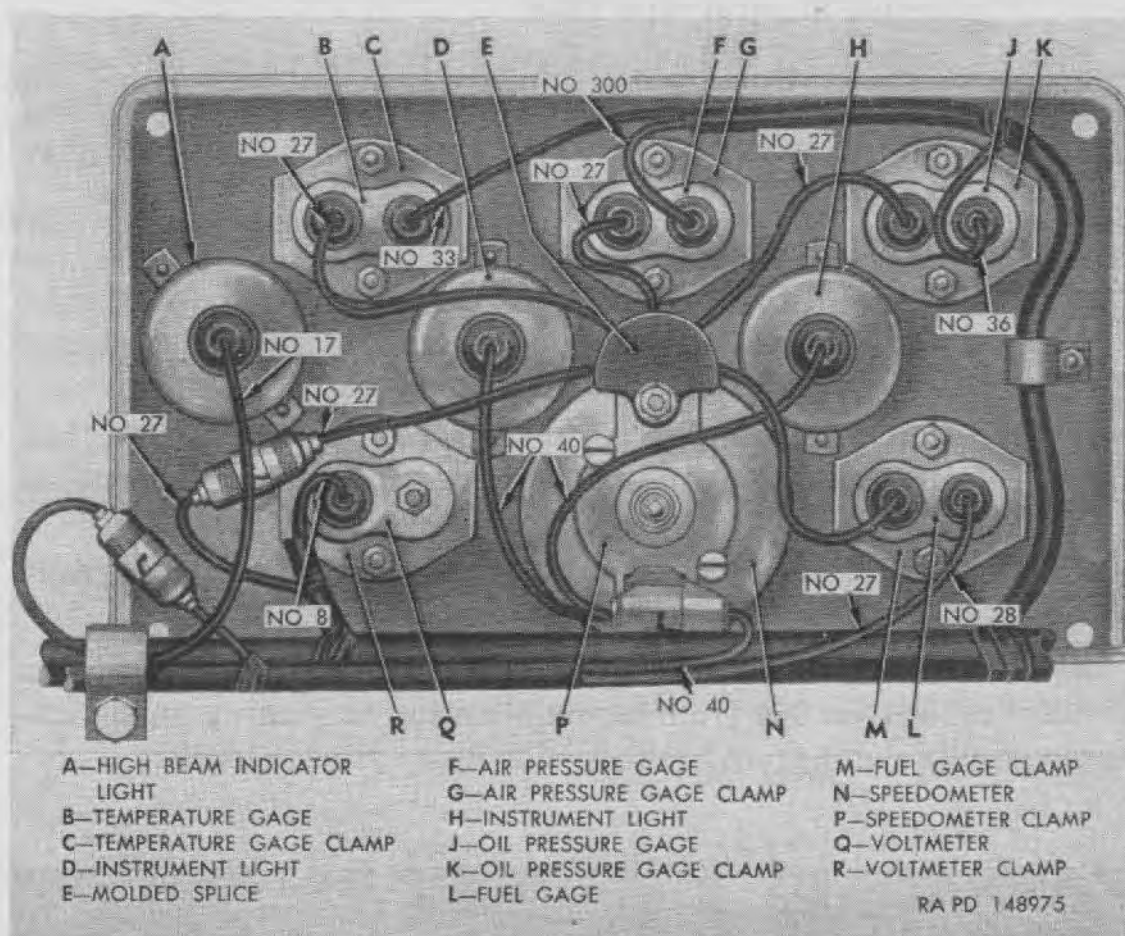
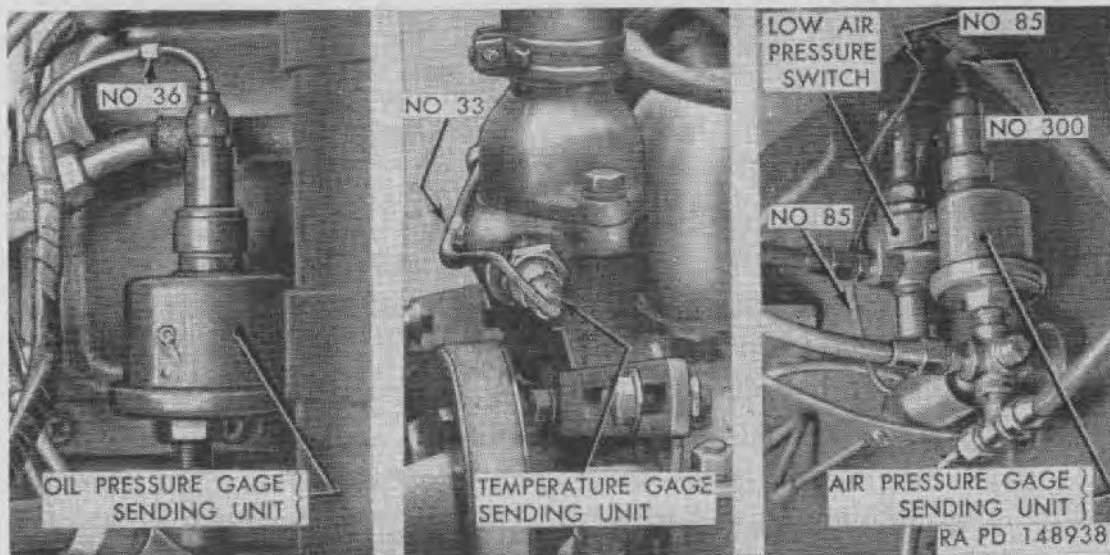

Figure 91. Instrument cluster—rear view.
Figure 92. Sending units and low air pressure switch installed.
a. INSTRUMENT CLUSTER. The instrument cluster, located in center of instrument panel, contains the voltmeter, engine temperature gage, oil pressure gage, fuel gage, air pressure gage, and speedometer. Instrument lights and high-beam indicator light are mounted on back of instrument cluster (fig. 91). Instrument cluster may be replaced as a complete unit (par. 153), or each unit may be replaced separately as described in individual paragraphs.
a. INSTRUMENT CLUSTER REMOVAL (fig. 91).
- (1) Disconnect speedometer flexible shaft from speedometer at rear of instrument cluster.
- (2) Remove four bolts attaching instrument cluster to instrument panel. Tip cluster out from instrument panel, disengaging harness from clip at right side of cluster.
- (3) Replacement of individual units in instrument cluster can be made with cluster in this position. To remove complete cluster assembly, disconnect all harness cables from units on cluster.
b. INSTRUMENT CLUSTER INSTALLATION (fig. 91).
- (1) If instrument cluster assembly was completely removed, position cluster at instrument panel and connect harness cables to instrument cluster units. Refer to figure 91 or to wiring diagram (fig. 90) to identify number on each cable and unit to which it connects.
- (2) Engage harness in clip at right-hand end of instrument cluster, position cluster against instrument panel, and attach with four bolts.
- (3) Connect speedometer flexible shaft to speedometer at rear of cluster.
mounted on right-hand side of engine above starter and connected to oil line leading from engine oil gallery to oil filter (fig. 92).
b. OIL PRESSURE GAGE REMOVAL (fig. 91).
- (1) Remove instrument cluster from instrument panel as directed in paragraph 153a.
- (2) Disconnect two cables from oil pressure gage terminals.
- (3) Remove nut and lock washer from two studs attaching clamp to back of gage. Remove clamp; then pull gage out front of cluster.
c. OIL PRESSURE GAGE INSTALLATION (fig. 91).
- (1) Position gage in instrument cluster from front side. Place clamp over two studs on back of gage, install lock washer and nut on each stud, and tighten nuts.
- (2) Connect cable No. 36 to female terminal on gage, and connect cable No. 27 from molded splice to male terminal on gage.
- (3) Install instrument cluster as directed in paragraph 153b.
d. OIL PRESSURE GAGE SENDING UNIT REMOVAL (fig. 92). Disconnect cable (No. 36) from terminal on top of sending unit. Unscrew sending unit from bracket on engine cylinder block.
e. OIL PRESSURE GAGE SENDING UNIT INSTALLATION (fig. 92). Coat threads of sending unit with plastic type gasket cement and thread unit into bracket on engine cylinder block. Connect cable No. 36 to terminal on top of sending unit.
b. FUEL GAGE REPLACEMENT (fig. 91). Fuel gage replacement procedure is same as previously described for oil pressure gage (par. 154). Cable No. 27 from molded splice connects to gage male terminal, and cable No. 28 connects to gage female terminal.
a. GENERAL. Temperature gage in instrument cluster registers temperature of engine coolant in degrees Fahrenheit. Temperature gage circuit is controlled by a temperature-gage sending-unit installed in engine thermostat housing (fig. 92).
b. TEMPERATURE GAGE REPLACEMENT (fig. 91). Temperature gage replacement procedure is same as previously described for oil pressure gage (par. 154). Cable No. 27 from molded splice connects to gage male terminal, and cable No. 33 connects to gage female terminal.
c. TEMPERATURE GAGE SENDING UNIT REMOVAL (fig. 92). Disconnect cable from sending unit terminal. Unscrew sending unit from engine thermostat housing.
d. TEMPERATURE GAGE SENDING UNIT INSTALLATION (fig. 92). Coat threads on sending unit with plastic type gasket cement and thread sending unit into engine thermostat housing. Connect cable No. 33 to sending unit terminal.
trolled by a sending unit. Sending unit is mounted on dash inside cab and is connected to air system at air line junction fitting on dash (fig. 92).
b. AIR PRESSURE GAGE REPLACEMENT (fig. 91). Air pressure gage replacement procedure is same as previously described for oil pressure gage (par. 154). Cable No. 27 from molded splice connects to gage male terminal, and cable No. 300 connects to gage female terminal.
c. AIR PRESSURE GAGE SENDING UNIT REMOVAL (fig. 92). Exhaust air pressure from air system. Disconnect cable from sending unit terminal. Unscrew sending unit from air line junction fitting on dash.
d. AIR PRESSURE GAGE SENDING UNIT INSTALLATION (fig. 92). Coat threads of sending unit with plastic type gasket cement and thread unit into top of air line junction fitting on dash. Connect cable No. 300 to sending unit terminal.
b. SPEEDOMETER REMOVAL (fig. 91).